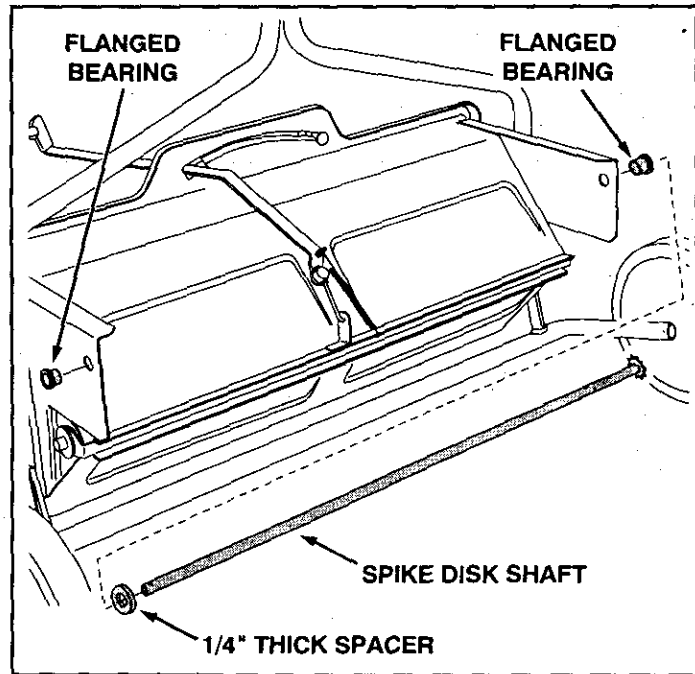

FIGURE 13
- Press flanged bearings into both of the end plates. See figure 13.
- Place the 1/4" thick spacer onto the spike disk shaft and insert the shaft through the flanged bearing in the left hand end plate. See figure 13.